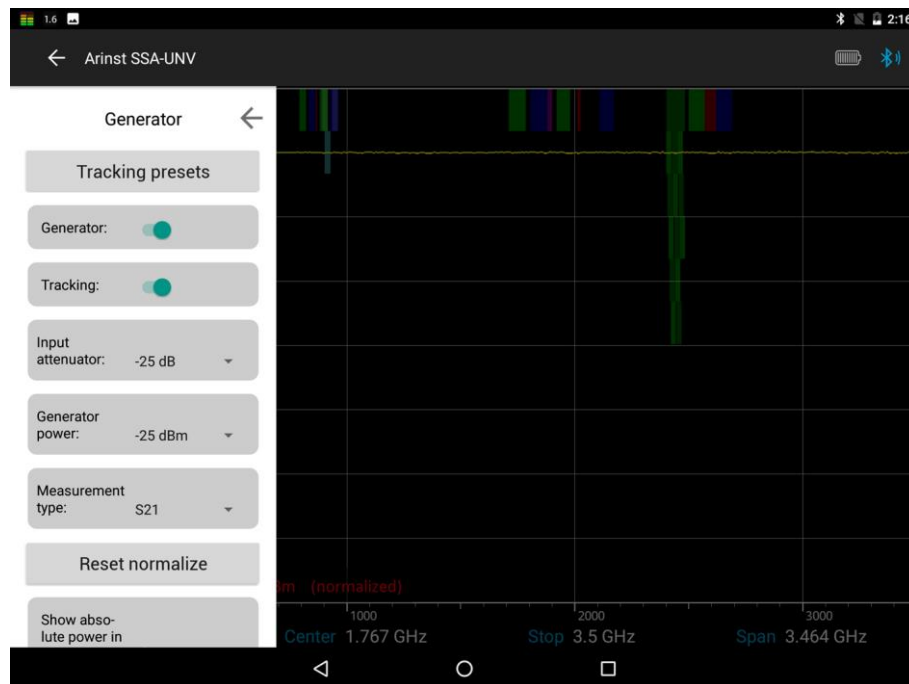

Figure 70 – Elimination of the influence of connecting wires and connectors of the test circuit
9.2.3. To determine the frequency response of the equipment under test, select **S21** mode from the **Measurement type** selection menu. Connect the generator output (1) **TG OUT** of the instrument and the antenna input (2) **RF IN** and **normalize**, figure 70.